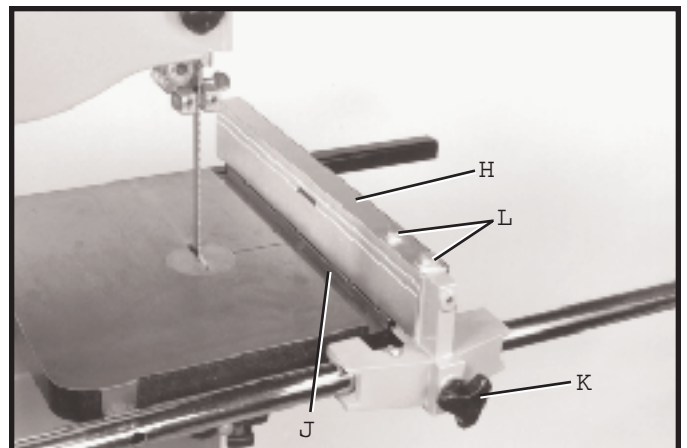

Fig. 28
8 Position the fence assembly (H) Fig. 28, at one edge of the miter gage slot (J), as shown. Tighten knob (K). Check to see that the fence assembly is parallel to the miter gage slot. If an adjustment is necessary, loosen two hex head screws (L), and adjust fence assembly so it is parallel to the miter gage slot. Tighten screws (L).